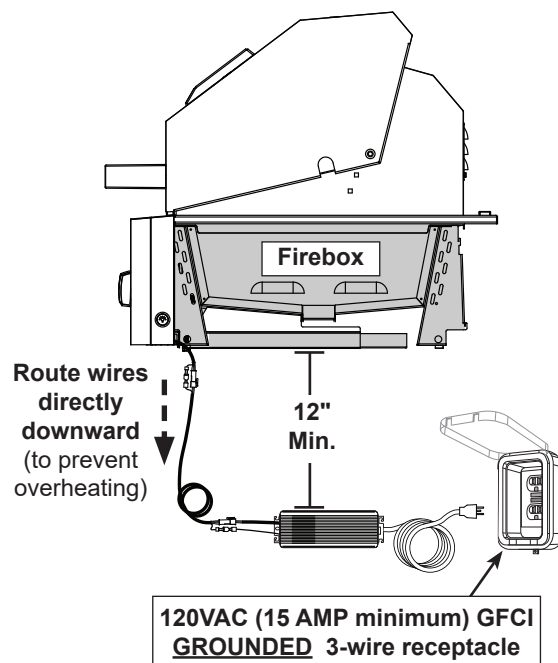

Fig. 30-1 Electrical installation
- located at least **12"** below the bottom of the unit (see Fig. 30-1)
3. Connect the power cord to a **120VAC (15AMP minimum) GFCI GROUNDED three-wire receptacle** (see Fig. 30-1). The GFCI receptacle must be a WEATHER-PROOF IN-USE COVERED RECEPTACLE.